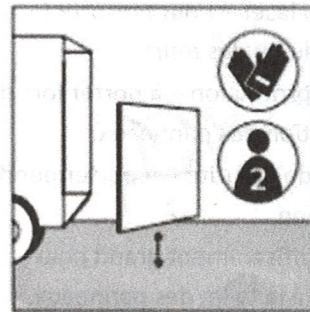

Figure 2
C. TRANSPORT AND HANDLING (Figure 2):